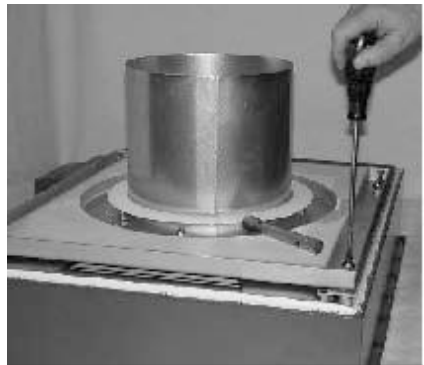

Fig. 10
- ⇒ Remove the housing lid and check whether the M 10 lock nuts (see Fig. 10, GB-10) have been tightened according to the manufacturer's instructions. GSB requires 5 - 7 Nm.